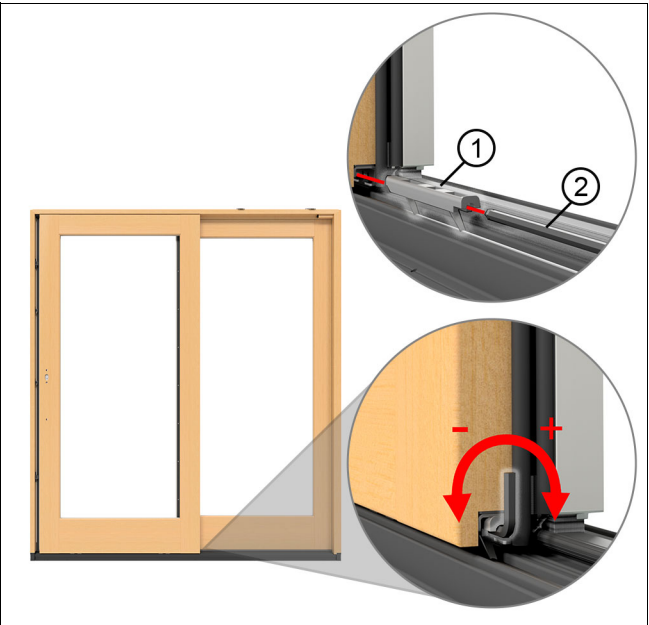

Figure 42
**2.** Adjust the panel height to obtain even reveals. Insert the plastic roller adjustment guide in the end of the panel. This will guide the Allen wrench into the adjustment screw. Turn the Allen wrench clockwise to raise the roller and counterclockwise to lower the panel. See Figure 42.